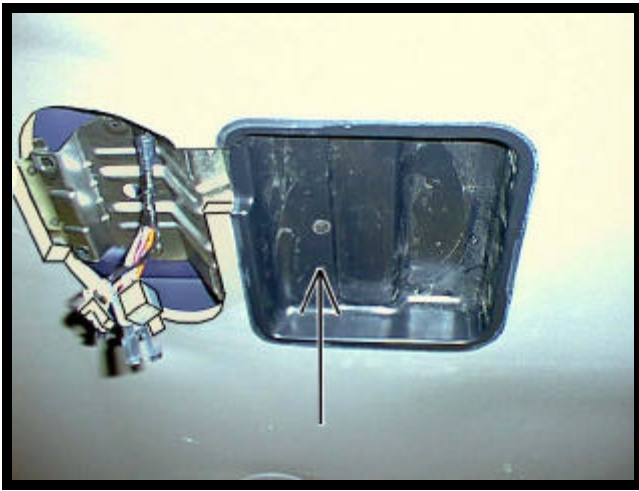

Figure 4
3. Install block-off cover (item 16 pg 2) using one (1) # 8 x 1 1/4" PWH screw (item 6 pg 2). See Fig. 4. **(Use caution to assure screw does not penetrate vehicle roof).**